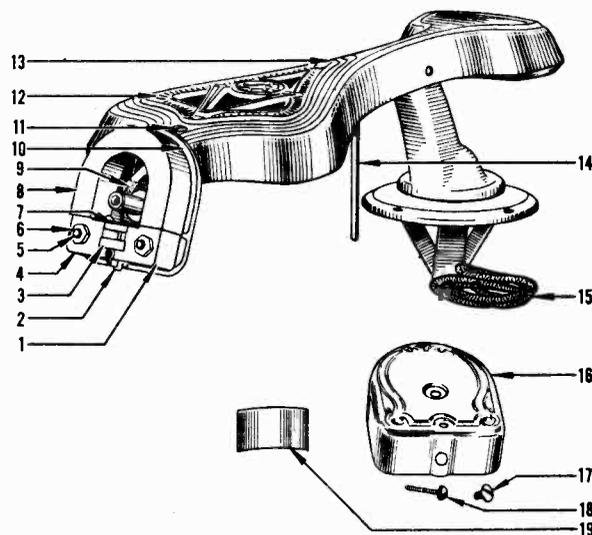

Fig. 29—Parts of Electric Pickup.
- a. Remove the pickup from the pickup arm by taking out the retaining screw and nut, 11, Fig. 29. Pull the pickup away from the connector block.